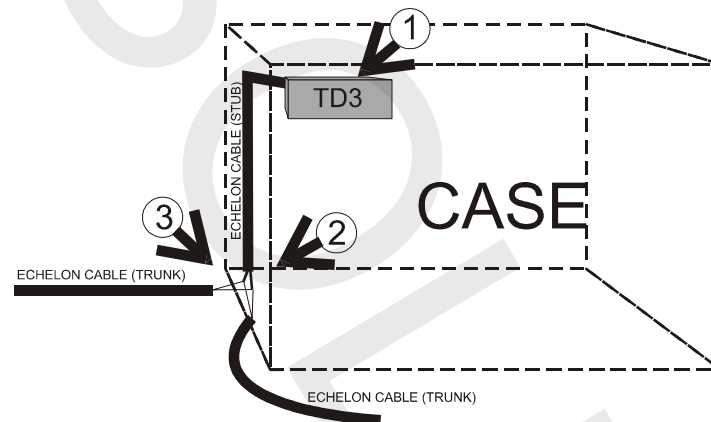

Figure 1 - Using a Stub with TD3
Since TD3s are typically mounted at the top of a case, the easiest way to daisy-chain TD3s on the Echelon network is to use a "stub." As demonstrated in *Figure 1*, a stub is a length of special Echelon wire with two twisted pair leads instead of one pair, leading from (1) the TD3 cable harness to (2) a terminal block on the kickplate at the bottom of the case. This will allow field technicians to (3) connect the TD3s to the Echelon network using the terminals at the kickplate.